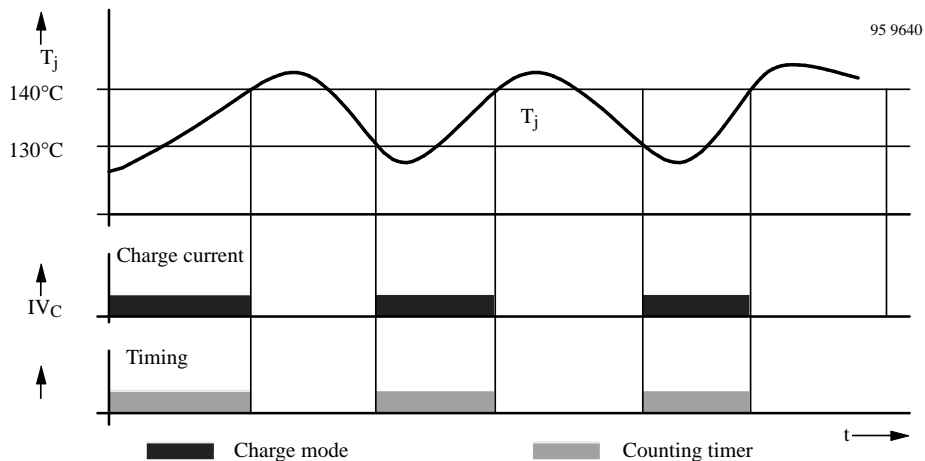

Figure 5 Charge duration in case of overtemperature
The oscillator is connected to GND via pin 3 (V_{SENSE}) which holds the present time status. When the chip temperature decreases below the transition value, all the functions are released and the charge time is continued. The process is reversible. If there is a higher power dissipation in the circuit ($T_j > 140^\circ\text{C}$) the temperature monitoring remains permanently activated (ON). The total cycle time is prolonged according to the interrupt time duration, see figure 5.